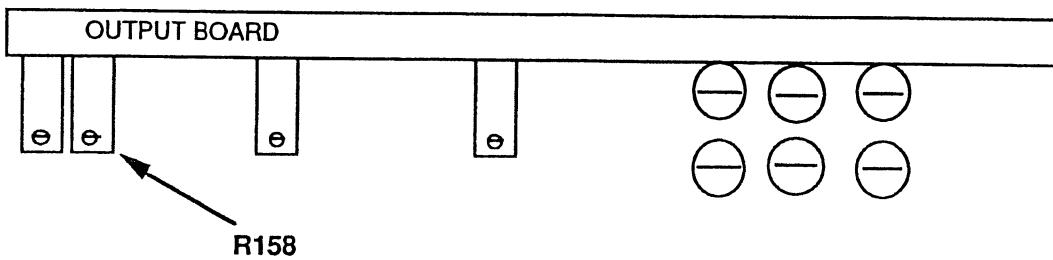

Figure 4-12. R158 Locator
2. Slide the cover back, and adjust the Output board's R158 (see figure 4-12) until the DVM reads 0Vdc \pm 2mVdc of square offset. Slide the cover back on.